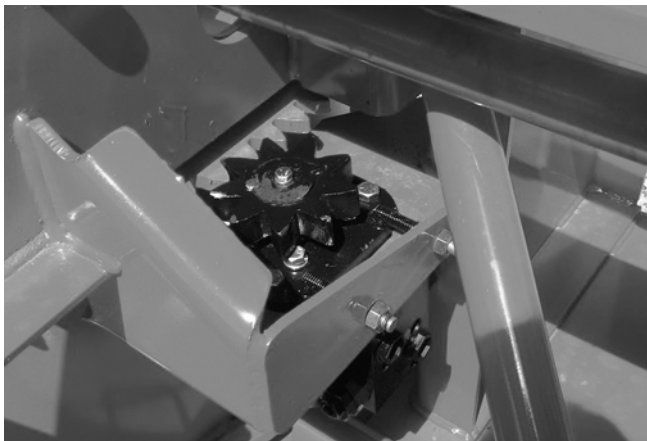

Figure 20
- 3) Bolt hydraulic motor in place pointing the oil outlets to the exterior and install sprocket (Fig. 20).